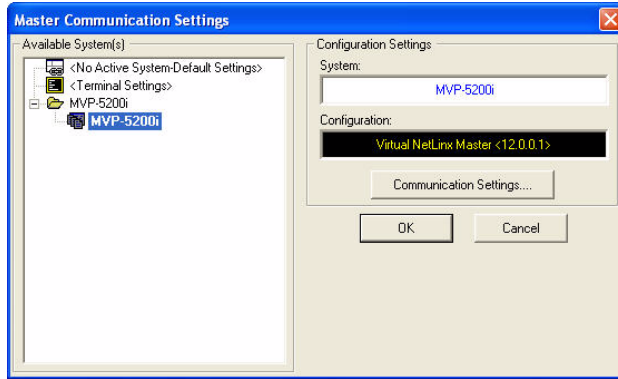

FIG. 106 Master Communications Settings dialog box
1. Launch NetLinx Studio 2.x and select **Settings > Master Communication Settings** from the Main menu to open the *Master Communication Settings* dialog (FIG. 106). If this is the first time the device needs to be configured, refer to the *Configuring Modero Firmware via the USB Port* section on page 186.